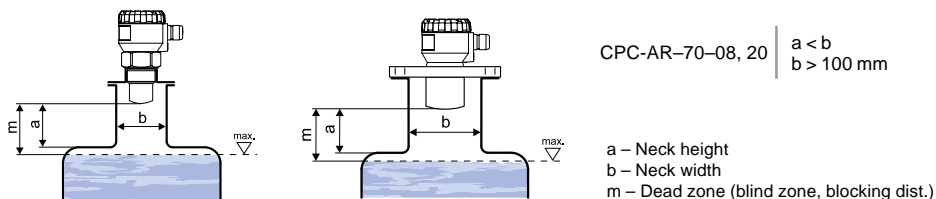

Fig. 4: Possible installation of the installation neck
- If the maximum level in the tank interferes with the dead zone, the level meter has to be mounted into a higher installation neck. In this way, the tank can be filled nearly up to the maximum volume. The inner neck surface has to be even and smooth (without edges and welded joints); the inner edge should be rounded where the radio wave leaves the pipe. The neck diameter should be as large as possible but the neck height should be as low as possible. Recommended dimensions of the input neck are given in Fig. 4.